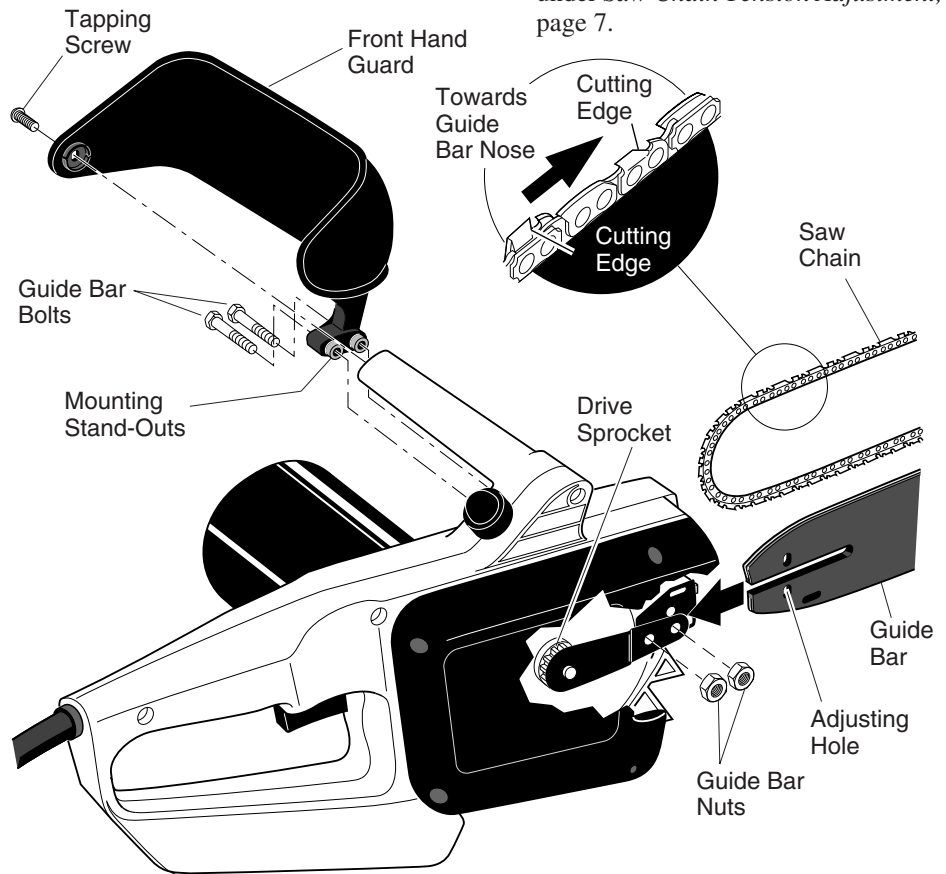

Figure 3 - Assembling Guide Bar, Chain, and Hand Guard
2. Install front hand guard onto saw body. Do this by pressing two mounting stand-outs on hand guard into hex-shaped holes in saw body (see Figure 3).
8. Place chain around drive sprocket, then along top groove of guide bar and around guide bar nose. *Note:* Make sure cutting edges of chain are facing the right direction. Position chain so cutting edges on top of guide bar face guide bar nose (see Figure 3).
1. Before adjusting chain, make sure guide bar nuts are only finger tight (see Figure 3, page 6). Also make sure adjusting block is in oval adjusting hole on guide bar (see Figures 3 and 4, page 6).